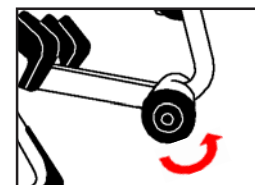

Figure 7
- As a secondary option, the ankle clamps may be released by locating the knob at the right end of the Foot Ankle Clamps (See Figure 7). Turn the knob counterclockwise to open clamps. **Note: The Power V comes with the Gravity Lock, a secondary locking mechanism to secure the ankles by not allowing the foot clamps to open after you rotate into a horizontal or inverted position.**